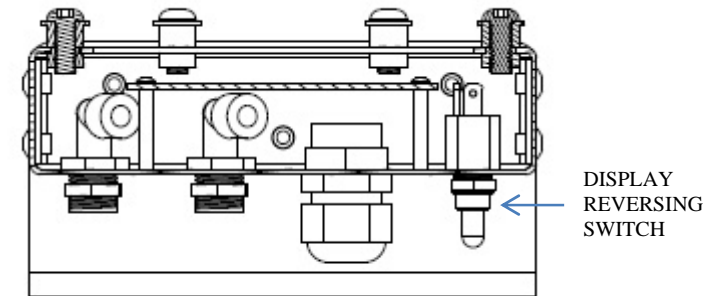

Figure 3. Side View
1. Use the display reversing switch (see Figure 3) to orient the display as desired.